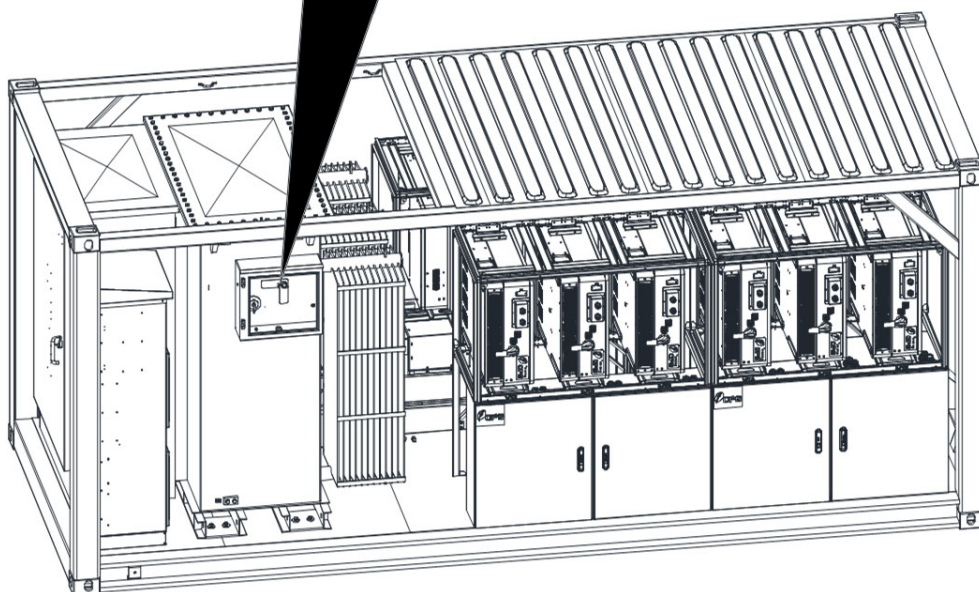

Fig. 4-2 American Transformer HV Indoor HV Load Switch (Closed)
1. UPS ① in 1# DC combiner cabinet is started, QF8 ② is closed, the red power indicator of UPS is on, and the control circuit power supply is normal;
2. The main circuit closes the HV load switch in the HV chamber of the American transformer (see Fig. 4-2), the LV side closes the frame circuit breaker QFM ③, and the red LED HL3 is on;
3. Close the isolation fuse GK2 ④ in 1# AC combiner cabinet, and then close the control power supply cabinet QFM2 ⑤. The white indicator HL1 of the mains supply at the door of the control power supply cabinet is on, indicating a normal power supply;
4. Close QF2~QF4 ⑥ in 1# control power cabinet successively and measure the voltages at the upper and lower ends, which are both 220V. At this time, UPS, step-up transformer control power supply equipment, and fan can work normally;
5. Close QF1~QF6 ⑦ in 1# AC combiner cabinet and QF7~QF12 in opposite 2# AC combiner cabinet;
6. 1#~12# PCS ⑧ startup;